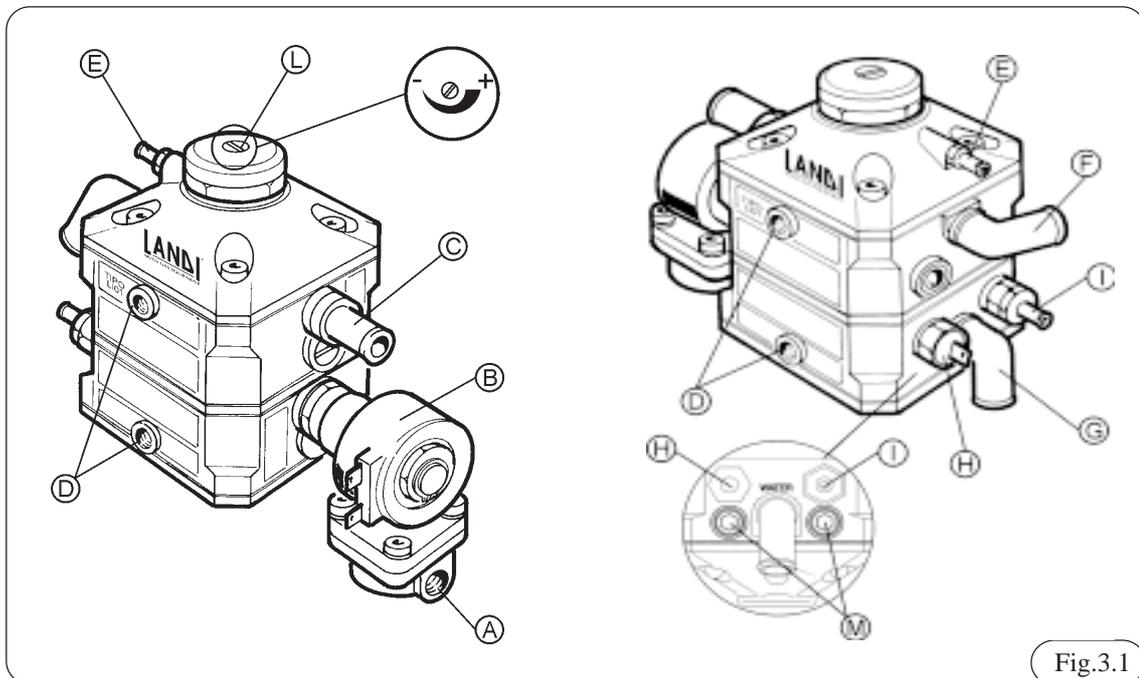

Fig.3.1
The **Regulator-vaporizer (RV)** (Fig. 3.1) has two stages for pressure reduction and control and is provided with water-gas heat exchanger, filter, fuel lock-off, gas temperature sensor, and safety valve.